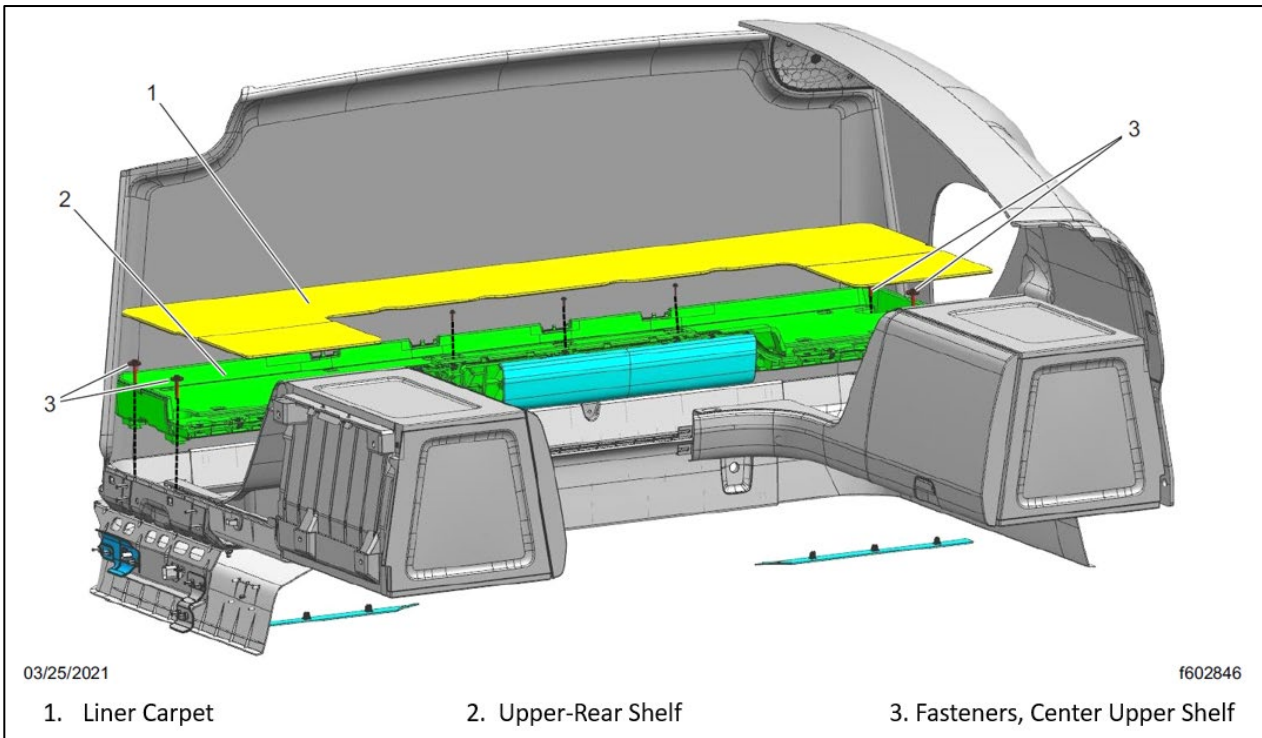

Fig. 42, Upper-Rear Shelf Assembly
16.1. Place the upper-rear shelf on the mounting bracket. See Fig. 42.
16.2. Install the four fasteners that attach the upper-rear shelf to the mounting bracket. See Fig. 42. Tighten the fasteners 7 to 9 lbf.ft (9 to 12 N.m).